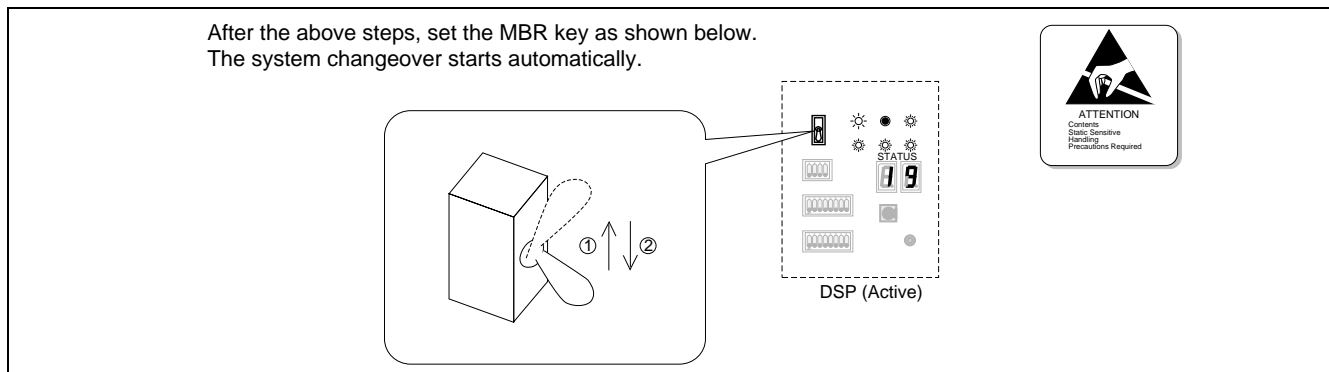

Figure 6-45 CPU Changeover via MBR Key
STEP 2 Flip the MBR key on the DSP of the active CPU. Refer to Figure 6-45.